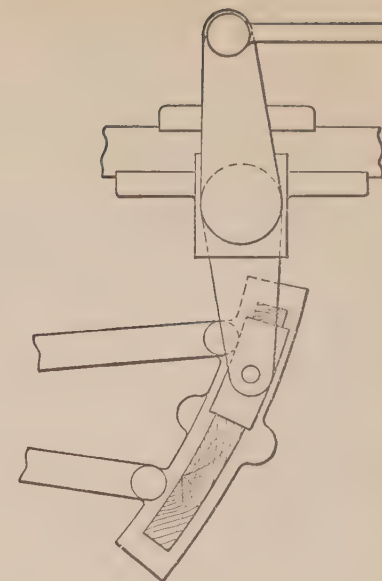

Fig. 200. Broken Reach-rod.
A. See page 329 ; also figure 200.